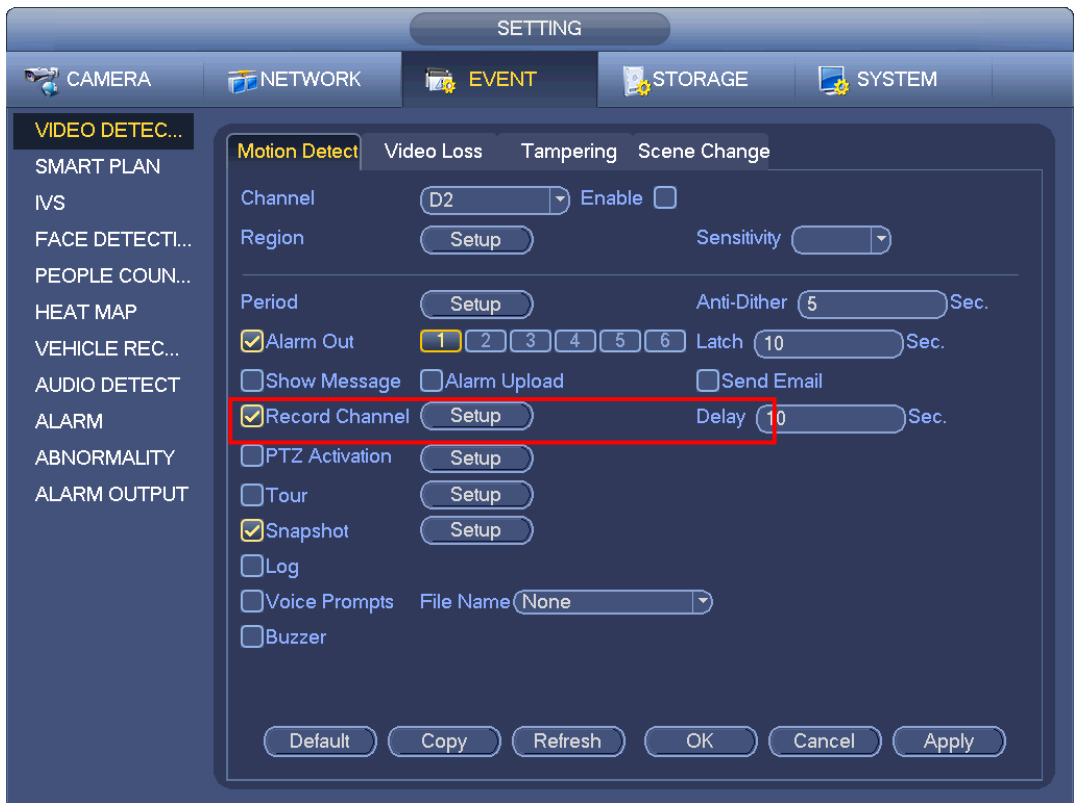

Figure 4-22
- When the record type is MD (motion detect), alarm, MD&Alarm, IVS, please enable the channel record function when corresponding alarm occurs. For example, when the alarm type is MD, from main menu->Setting->Event->Video Detect->Motion Detect, please select the record channel and enable record function. See Figure 4-22.